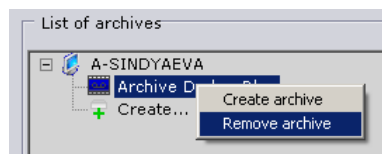

Fig. 6.6—9 Deleting an archive
- Select the archive to be deleted in the archive list (Fig. 6.6—9).
- Right-click to bring up the context menu. Execute the command **Delete archive** (Fig. 6.6—9).